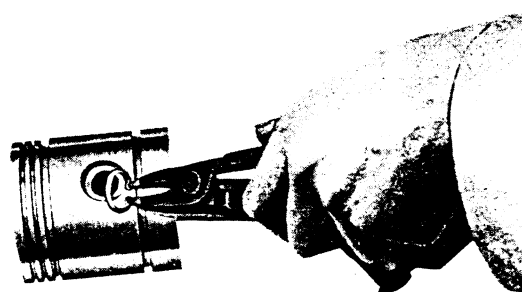

FIG. 33
3. Remove circlips from each end of gudgeon pin, using thin-nosed pliers as shown in Fig. 33.